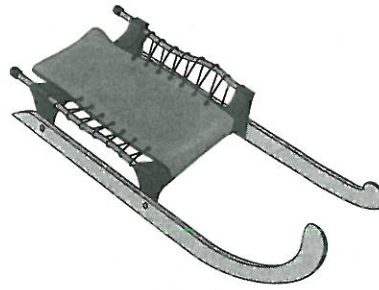

Figure P1.77
1.77  The sled shown in Fig. P1.77 slides along on a thin horizontal layer of water between the ice and the runners. The horizontal force that the water puts on the runners is equal to 1.2 lb when the sled's speed is 50 ft/s. The total area of both runners in contact with the water is 0.08 ft^2 , and the viscosity of the water is